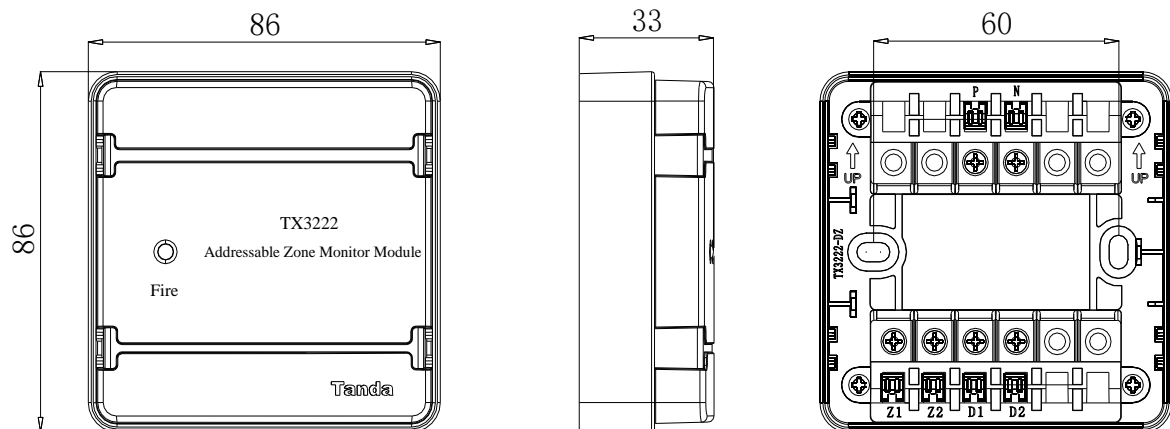

Figure 1: Diagram of Dimensions and Installation Measurements
1. The external dimensions and installation specifications of the module are shown in Figure 1 (unit: mm).